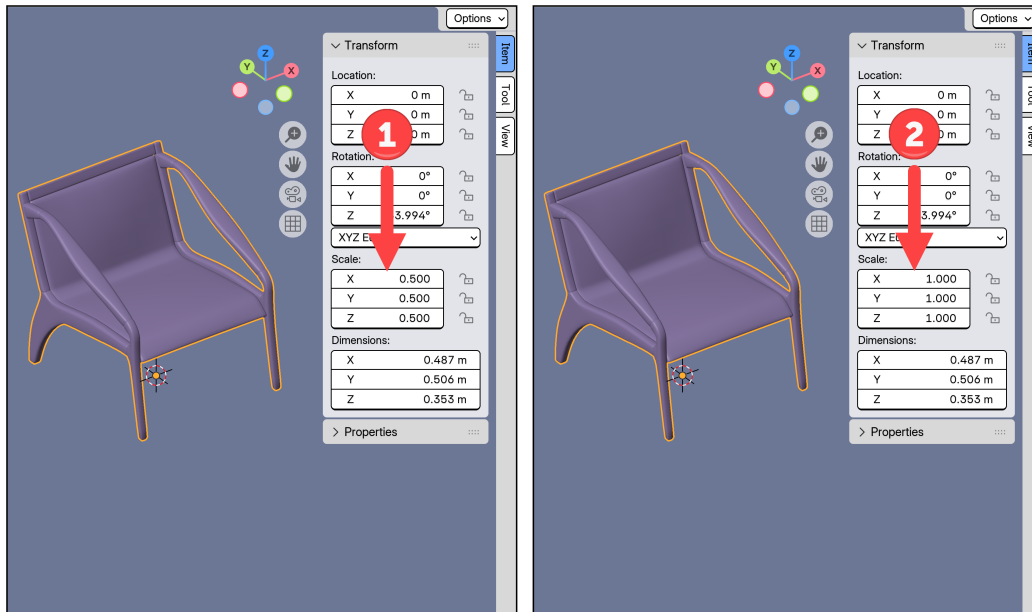

Figure 1.21 - Object Data After Applying Scale
Figure 1.21 reveals the same object after applying scale, where all scale values have been reset to 1.0 while the object maintains its visual size (2). This "clean" state ensures that all tools and modifiers will work with the geometry as it appears, eliminating unexpected behavior and providing predictable results. The application process has essentially redefined the object's base state to match its current appearance.